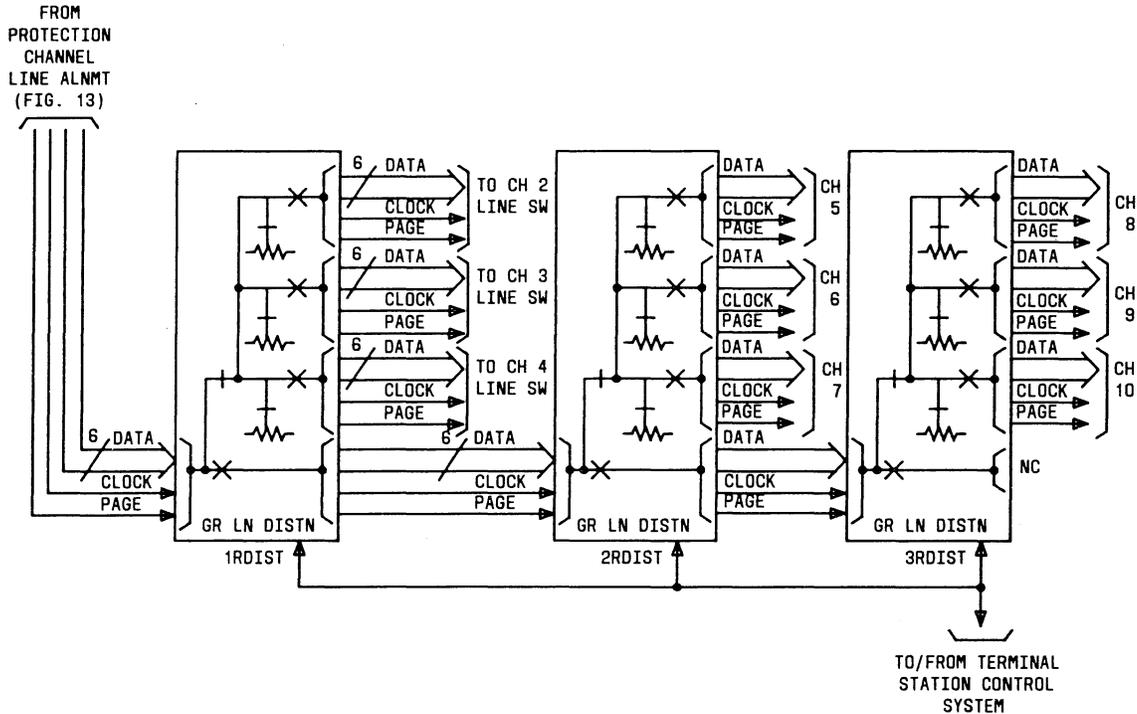

Fig. 14—Receive Growth Line Distribution Units
- Figure 14—Receive Growth Line Distribution Units